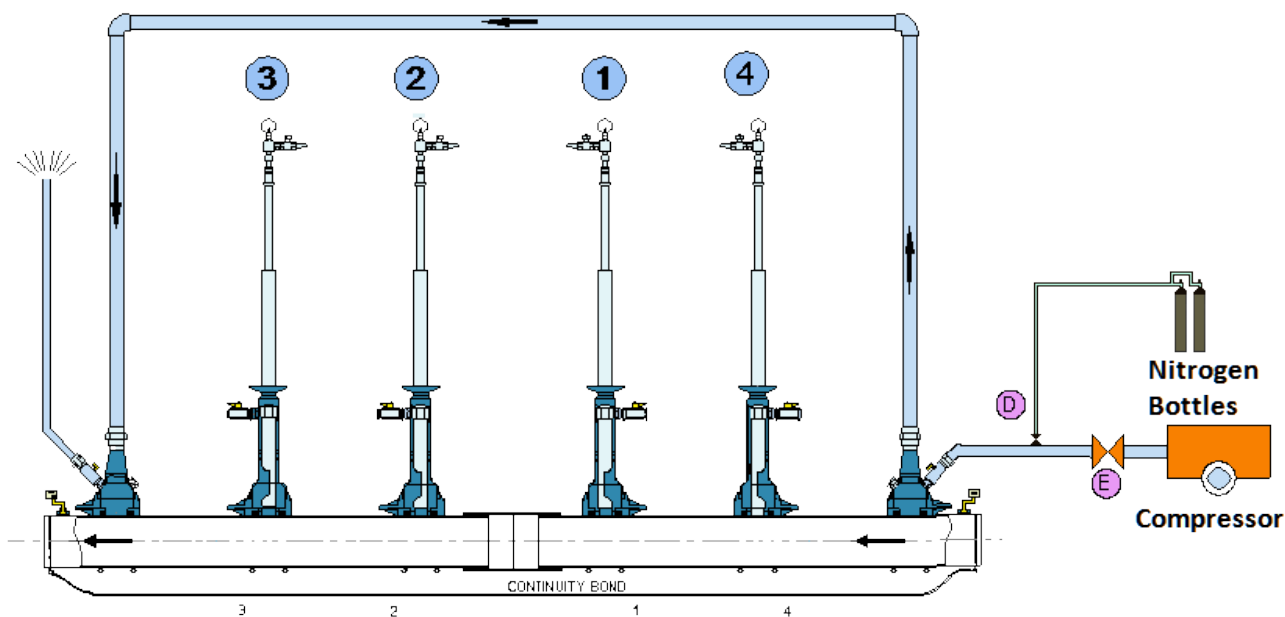

Figure 71- Decommission the Bypass
1. Refer to Figure 71, monitor the mains pressure either side of the flow stopping operation.